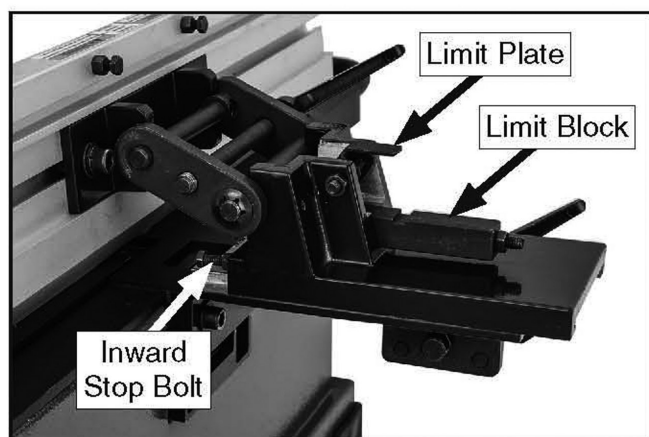

Figure 30. Adjusting the inward stop.
5. Remove limit block from fence bracket assembly and set it aside (see **Figure 30**).
6. Adjust inward stop bolt (see **Figure 30**) until it contacts fence face at precisely 45° inward, then tighten jam nut (where bolt meets bracket assembly) while holding stop bolt in place. Replace limit block and set limit plate.